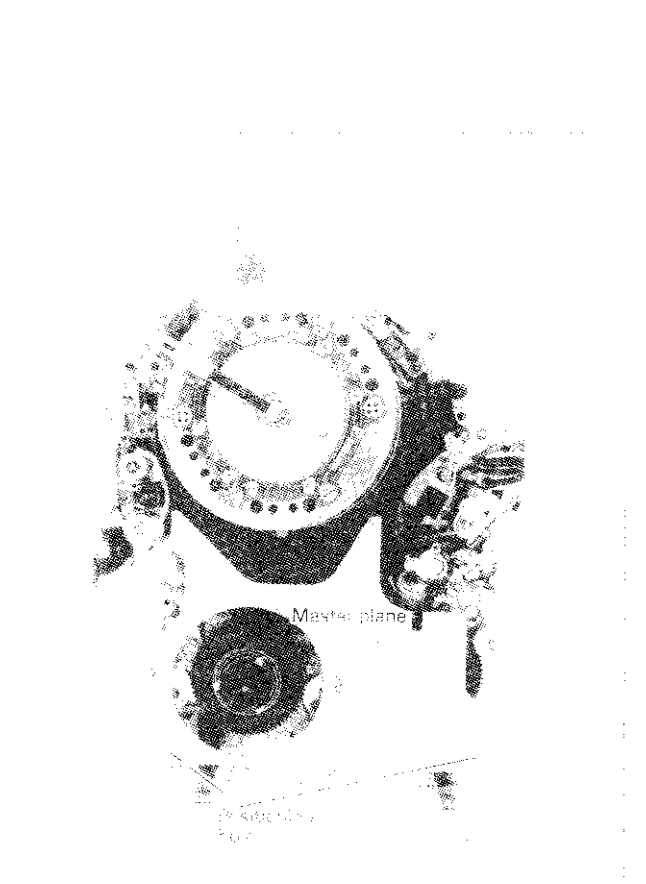

Fig. 2
3. HOW TO ATTACH THE MASTER PLANE (Refer to Fig. 2)
When attaching the master plane, be careful not to directly press on part A. (See Fig. 2)